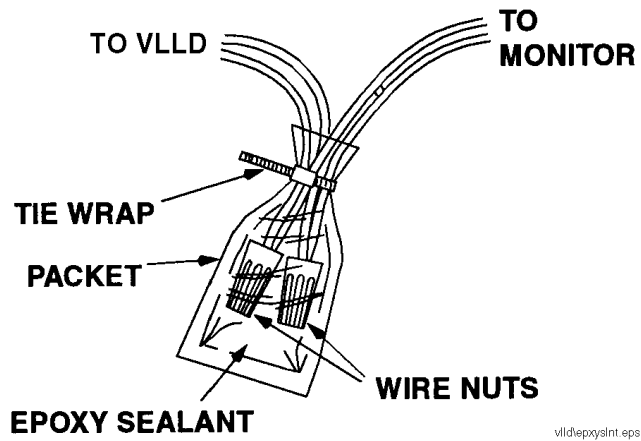

Figure 6. Epoxy Sealant Connections
- b. Cut one end of packet. Insert wire nuts and wires into packet [Figure 6].
- Seal wire nut connections at this time using the epoxy sealant furnished with each VLLD. Use one packet for no more than two wire nut connections (see detailed procedure and Figure 6 on page 40).